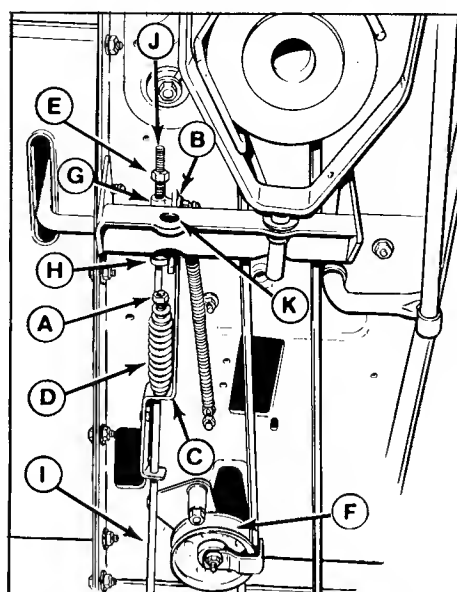

Figure 32. Brake-Clutch Adjustment
- Place the transmission in gear and release the parking brake. Move the brake rod (I, figure 32) back and forth to be sure there is no tension on the brake pads.
- Loosen the locking nut (C). Tighten the adjusting nut (D) to decrease gap or loosen nut to increase gap. Recheck the measurement. When correct, tighten locking nut against adjusting nut.
The clutch-brake pedal must be in up position. With one hand, push rod guide (C, figure 32) as far forward as slot (B) will allow while pulling rod (I) back with other hand. With rod guide in this position, tighten or loosen nut (A) until $1/4$ inch of clearance is obtained between nut and end of spring (D).
- With the pedal up, push the idler pulley (F, figure 32) firmly against the belt. With the pulley in this position, the gap between nut (E) and the rod guide (G) should be $7/8$ to 1 inch (22 to 25 mm). If not, tighten nut (E) to decrease gap or loosen nut to increase gap. Recheck measurement.
- Depress and lock the clutch-brake pedal. Loosen the setscrew in the set collar (H). Move the collar against the spring which is located between collar (H) and rod guide (G). Be sure spring is seated as far as possible over rod guide (G). Push the collar